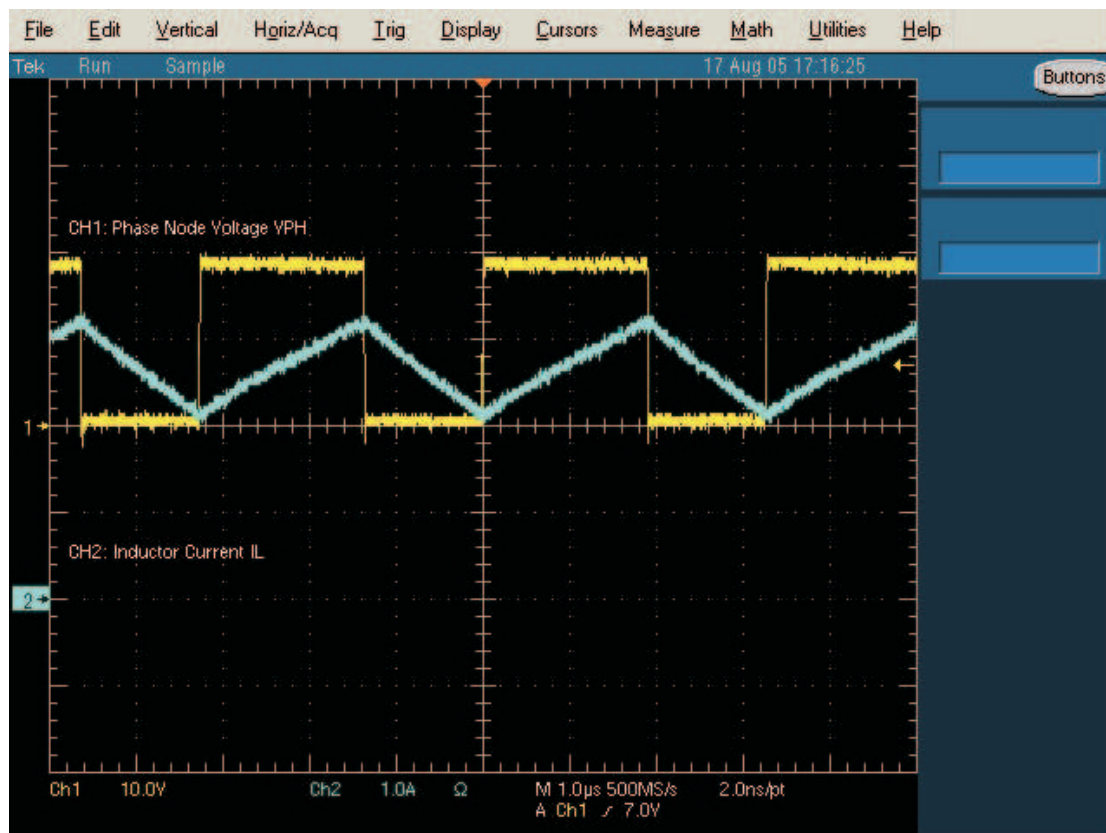

Figure 6. The Waveforms at $I_{bat} = 3 \text{ A}$
- b. Observe → Make sure the phase node voltage and the inductor current waveforms look like Figure 6.